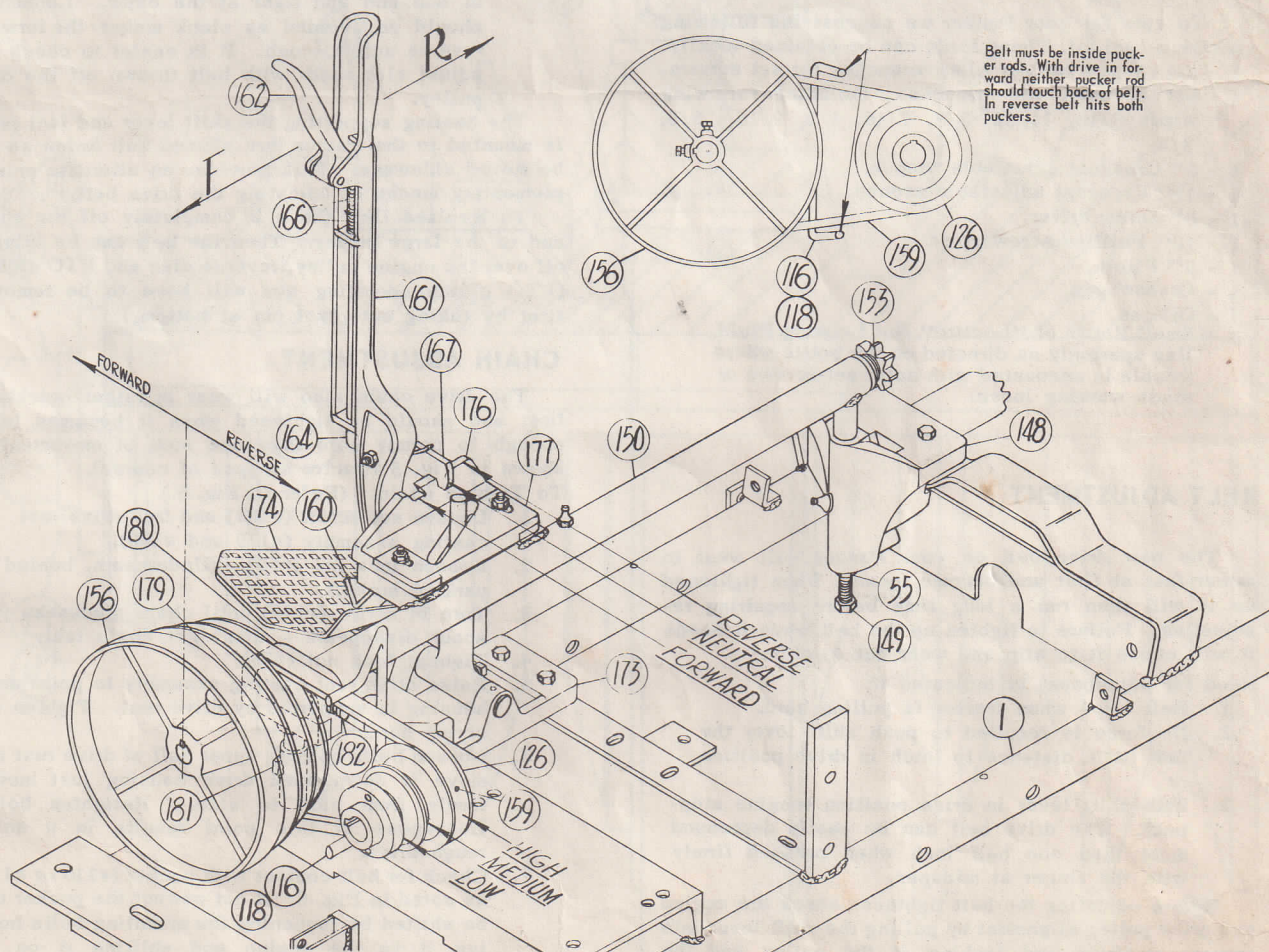

FIG. 5 Drive Control
forward speed from low range to intermediate or high first stop the engine. No attempt should be made to change the belt with the engine running. Pull shift lever to reverse position and move belt to the desired pulley grooves. Do this by taking belt out of groove in large pulley first, moving belt to desired groove on small pulley, and then returning belt to proper groove in large pulley. When the belt is in the largest groove on engine pulley, tractor will be operating at highest speed. Mowing and other lawn work will be done in medium or low. Plowing or garden work will be done mostly in low. High is mostly for fun-pulling trailers, etc. After moving belt make sure belt is between arms of belt pucker and that belt just misses the arms when engaged in forward position. See Figure 5.
The tire should run approximately in the middle of the flat rim of the drive pulley. With the drive in the forward position the grooves in the pulleys will be out of line (large pulley forward of small). This is normal and required to keep belt from climbing up a groove when tractor is reversed. No adjustment of pulley positions should ever be required, but if needed is accomplished by adding or removing spacer washers at rear of large pulley. To tighten belt (See Fig. 5):
The drive chain also will wear in rather quickly at first and should be tightened when it becomes loose enough to permit more than one inch of movement as shown in Fig. 5 (tractor stopped of course).
To Tighten chain: (Refer to Fig. 5.)
7. Check for belt contact with pucker (#116 or #118) as noted in Fig. 5. If not correct the pucker can be shifted by loosening the mounting bolts holding it to the engine and shifting it on its slotted holes.